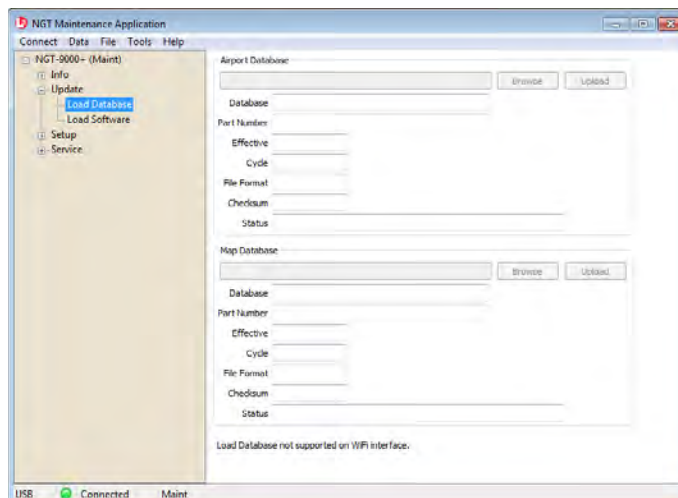

Figure 4-4: Lynx MAT – Update Database
1. From the Lynx MAT select Update→ Load Database. See Figure 4-4. The tool has the option of loading any of the following database files.